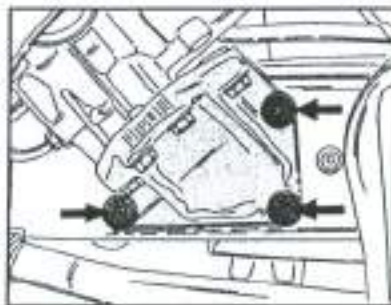

Fig. 6.6 - The pressure pipe (1) and the return pipe (2) are connected as shown. The plug (3) can be removed to drain the steering.
- Open the fluid reservoir and remove the filter insert. Using a syringe, remove the fluid from the container. The system can also be drained by opening the plug next to the two hydraulic pipes in Fig. 6.6. In this case start the engine and let it run for approx. 10 seconds, until pump and reservoir are drained. Catch as much fluid as possible from the draining point.
- Refer to Fig. 6.6 and disconnect the high pressure pipe (1) and the return pipe (2). Close the open connections in suitable manner to prevent entry of foreign matter.
- Fit the drain plug (3) in Fig. 6.6 and tighten to 5.0 - 5.5 kgm (36 - 40 ft.lb.) and refit the two steering fluid pipes.